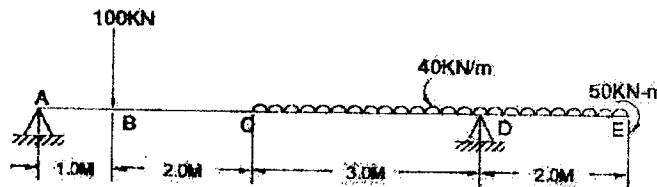

FIG 2
b) Draw SFD and BMD for the beam as shown in fig. 2. [10]